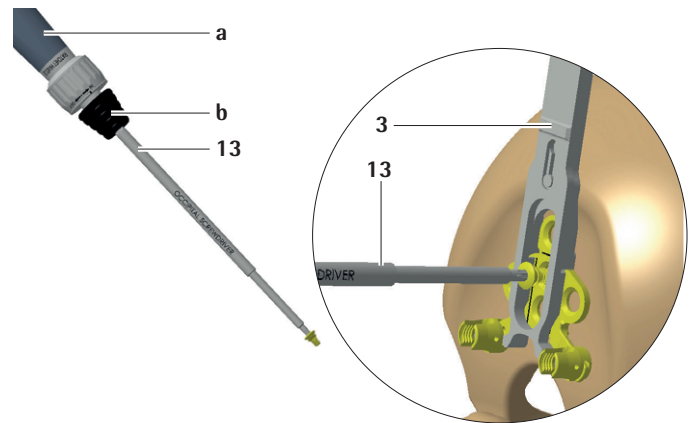

Fig. 9
- ▶ Pick up the screw with the occipital screw driver **13**, as shown on the left side of the image, see Fig. 9.
- ▶ Insert the occipital screws with the occipital screwdriver, as shown on the right side of the image, see Fig. 9. Make sure to hold the screwdriver perpendicular to the occipital plate. Visually check that the screw is fully seated. Locking the occipital screws firmly in the plate with the occipital screwdriver is sufficient.